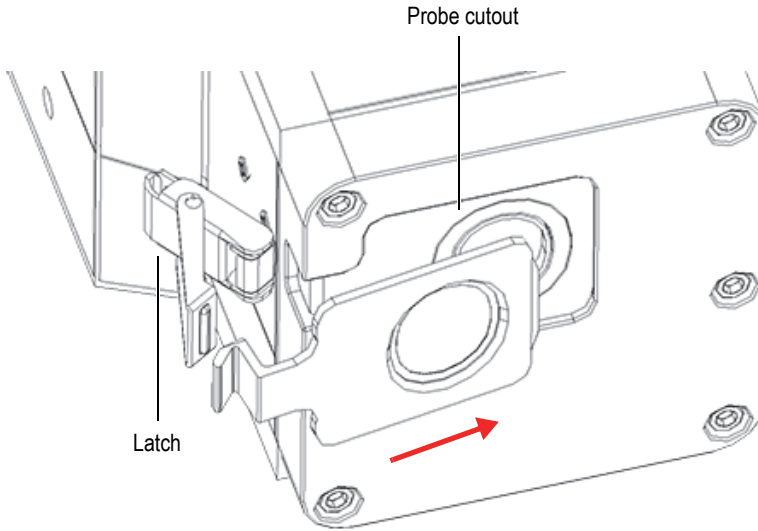

Figure 4-9 Orienting faceplate with latch and probe cutout
3. Orient the faceplate with the latch and the cutout on the probe (Figure 4-9 on page 66).